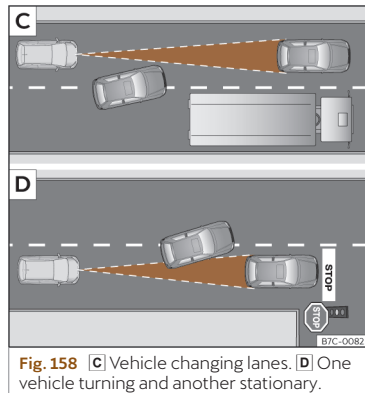

Fig. 158 **C** Vehicle changing lanes. **D** One vehicle turning and another stationary.
- Vehicles that move into your lane, a short distance from your vehicle»» Fig. 158 [C].
The ACC does not react to stationary vehicles. If, for example, a vehicle detected by the ACC turns or moves over and there is a stationary vehicle in front of it, the ACC will not react to the second vehicle»» Fig. 158 [D].